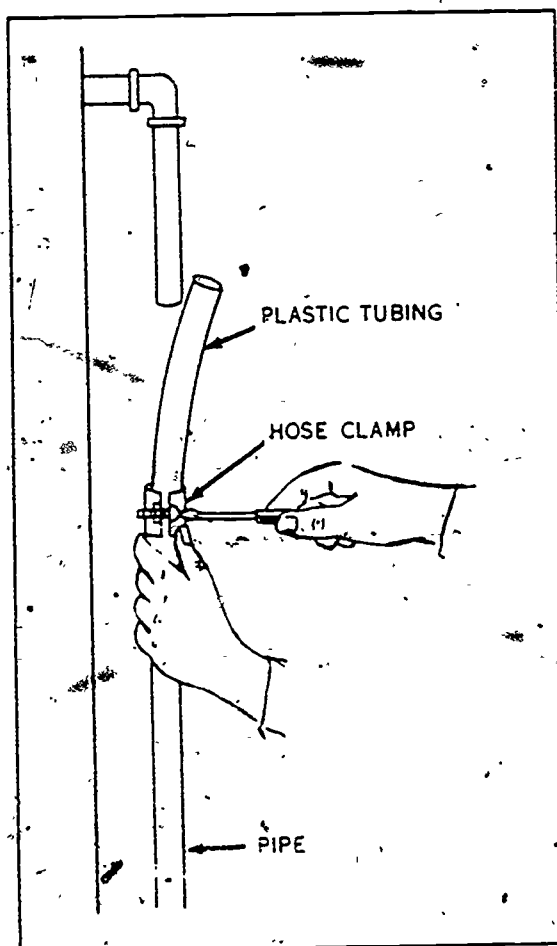

Figure 6-1. Repairing a hole in a pipe with plastic tubing.
a. **Plastic tubing.** Another way to make a temporary repair in a pipe is to replace the damaged section with plastic tubing. Cut the pipe on either side of the leak with a hacksaw or a regular pipe cutter, if working space permits. Now, remove the damaged pipe section and replace it with a length of rubber hose or flexible plastic tubing by slipping the ends over the pipe and securing them with hose clamps, as shown in figure 6-1. The inside diameter of the hose or tubing must be equal to the outside diameter of the pipe. One-inch automobile hose fits 3/4-inch pipe, and 3/4-inch garden hose fits 1/2-inch pipe.